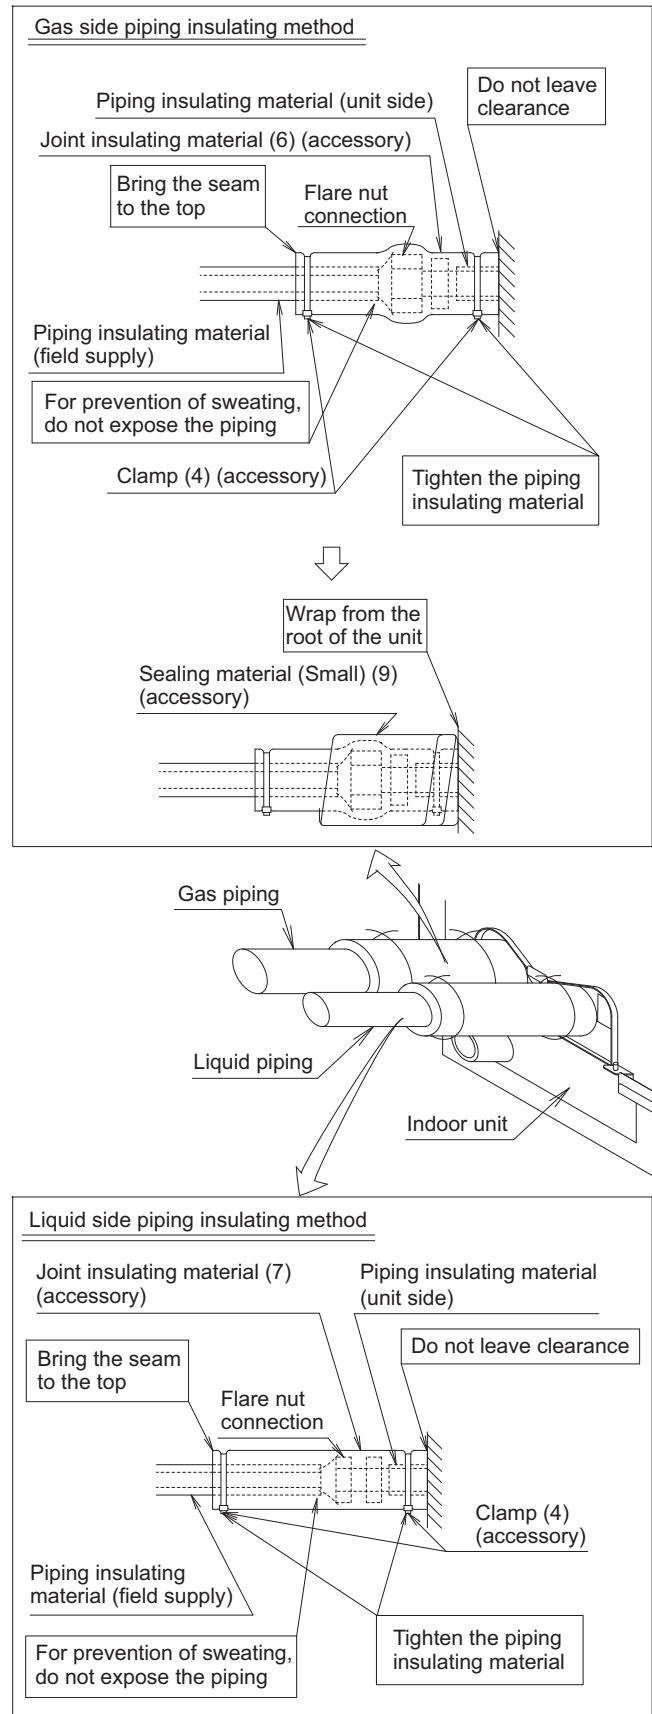

Fig. 15
- After leak test, referring to Fig. 15, insulate both the gas and liquid piping connection with the attached joint insulating material (6) and (7) to prevent the piping from getting exposed. Then, tighten the both ends of insulating material with the clamp (4).
- Wrap the sealing material (Small) (9) around the joint insulating material (6) (flare nut section), only the gas piping side.
- Make sure to bring the seam of joint insulating material (6) and (7) to the top.